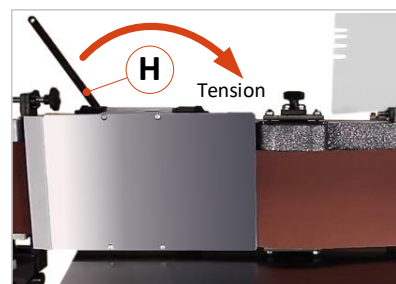

Figure 16: Tensioning sanding belt
- Slowly tension the belt by swivelling the lever (H) to the right (see ⇒ Figure 16).
- Switch on the sanding belt drive briefly and adjust the height of the belt run correctly with the adjusting wheel (21) → The sanding belt must run in the centre of the free drum.
- Finally, refit the belt covers (A), (B), (C) and (D) and reposition the worktable (11) to the desired height.